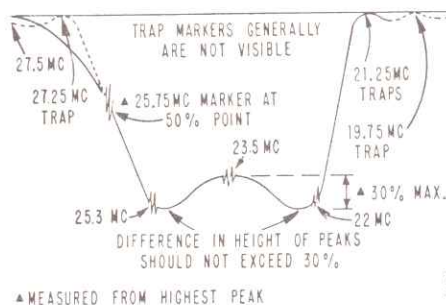

Figure 22. Video IF Response Curve. Portion of curve in broken line applies only to sets having adjacent channel traps (19.75 MC and 27.25 MC).
- e. Compare the curve obtained with figure 22.